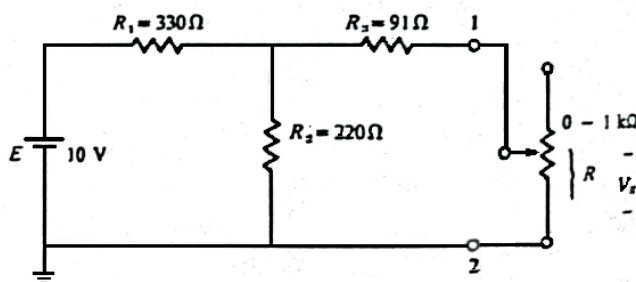

FIG 4.7
- (c) Construct the network of Fig 4.7 and set the potentiometer to 10Ω complete Table 4.4 for each value of R .